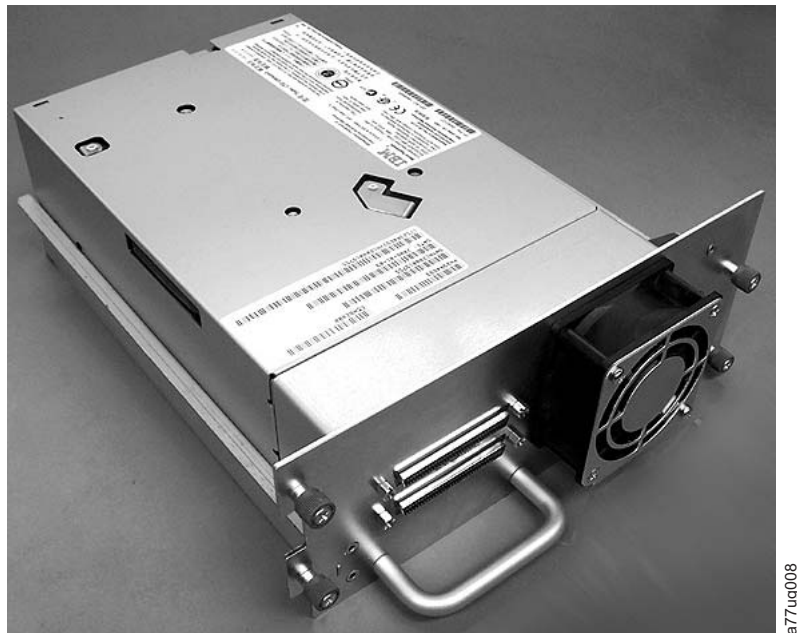

Figure 10-4. Library drive sled without ElectroStatic Discharge (ESD) springs (SCSI sled shown)
- Drive sled without ElectroStatic Discharge (ESD) springs (see Figure 10-4) ship group:
6. If you are installing a drive sled without ESD springs (see Figure 10-4 on page 10-3), apply conductive tape to the sled as shown in Figure 10-9 on page 10-8.
4. If you are installing a drive sled without ESD springs (see Figure 10-4 on page 10-3), apply conductive tape to the sled as shown in Figure 10-9 on page 10-8.